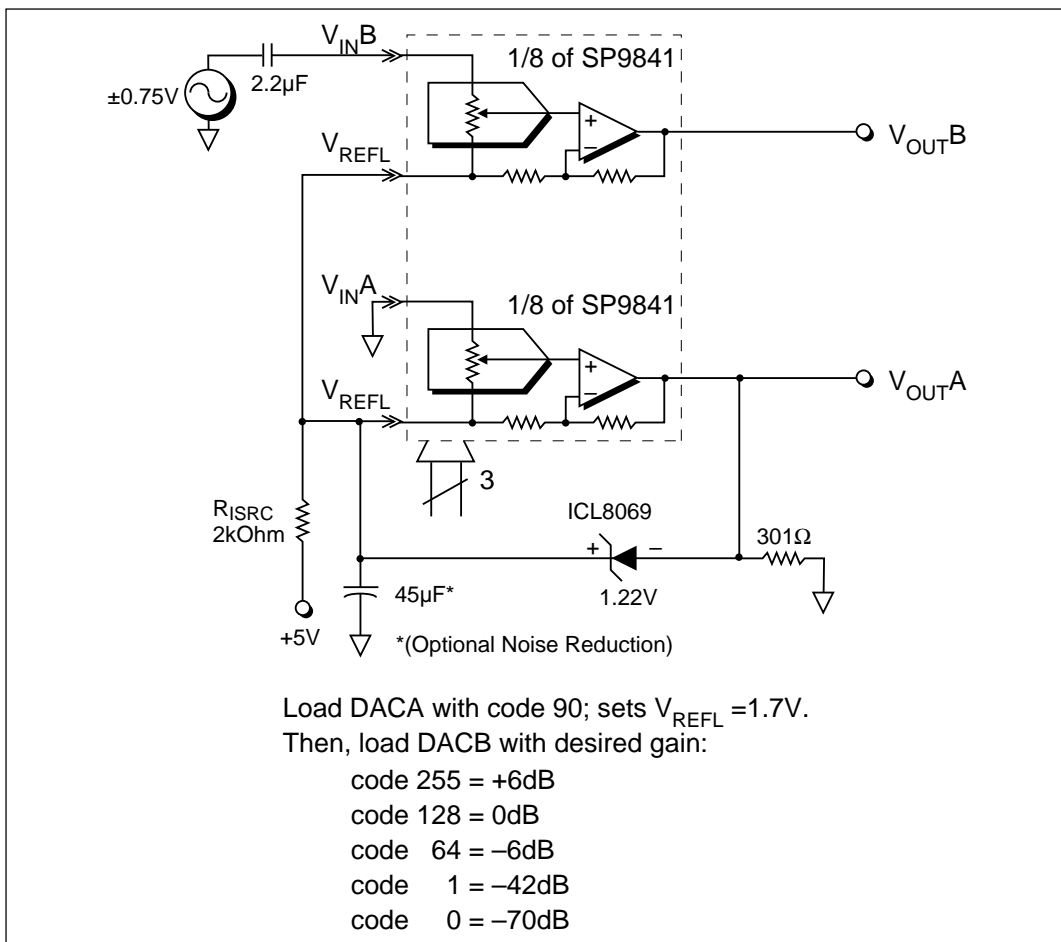

*Figure 11. Programmable, Bootstrapped, 1.4V to 2.2V  $V_{REFL}$  Drive.*
rail-to-rail output swing. In order to obtain this performance,  $V_{REFL}$  must be externally driven to  $V_{DD}/2$ , perhaps by use of the circuit of *Figure 11*. At  $V_{REFL}$  near 2.5V and  $V_{DD} = 4.75V$ , the typical positive output headroom at the DAC is limited to 1.15V above 2.5V, so that this circuit is useful for rail-to-rail outputs for gains higher than 4.35 (i.e.  $1.15V_{pp}$  maximum input). Note that
*Figure 11* shows a minimal parts count method